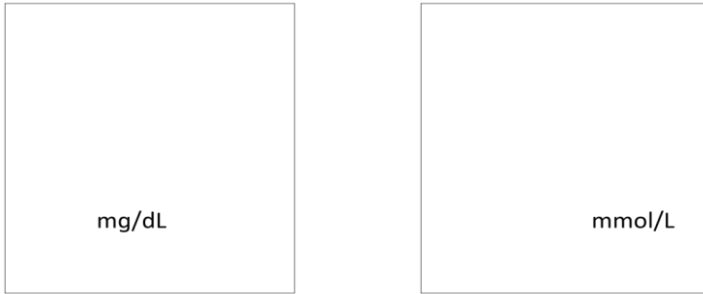

Fig 5.19
- Press the right or left button to select the Measurement Unit. The unit can be set to “**mg/dL**” or “**mmol/L**” (Ref Fig 5.19).